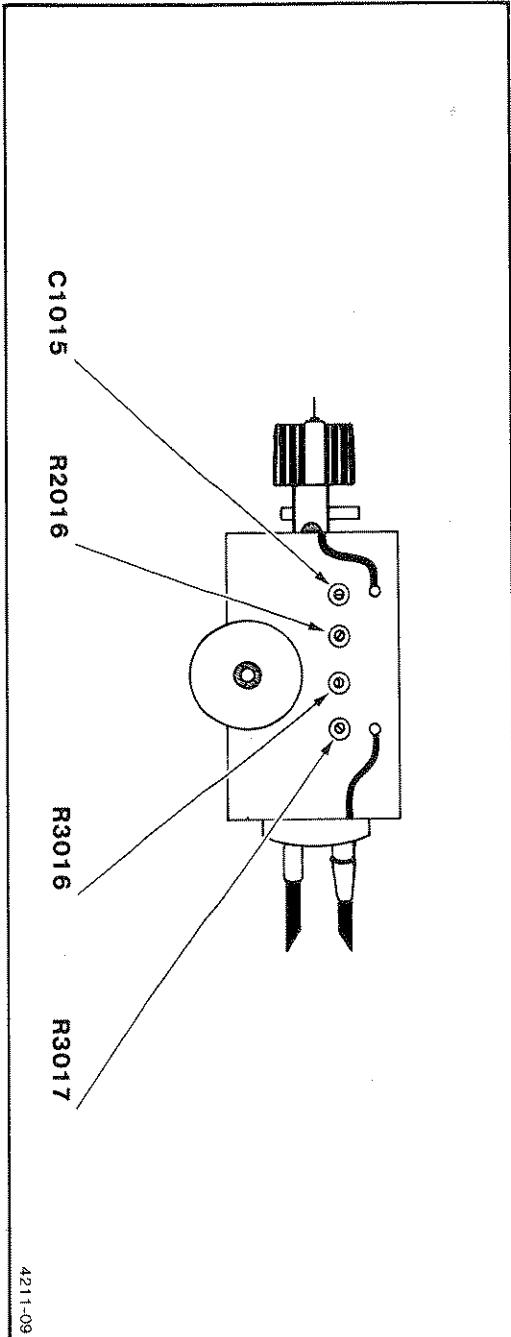

Figure 4-1. P6230 adjustment locations.
Adjustable component locations are shown in Figure 4-1. Only the adjustable components are illustrated in this figure.
- f. ADJUST — R3017 (see Figure 4-1) for minimum trace shift while rotating the INPUT BIAS/OFFSET VOLTAGE control back and forth.